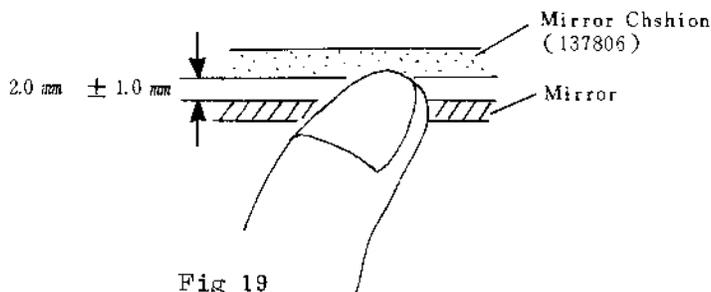

Fig 19
(7) Adjustment of Shutter releasing position.
- o Make sure Shutter is released within $2.0 \pm 1.0 \text{ mm}$ between Mirror surface and Mirror Chshion (137806) as shown in (Fig 19).